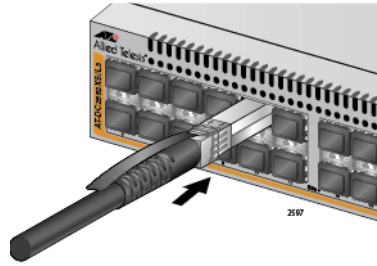

Figure 36. Installing an SFP+ Direct Attach Cable
- Slide the direct attach cable into the slot until it snaps in place. See Figure 36.